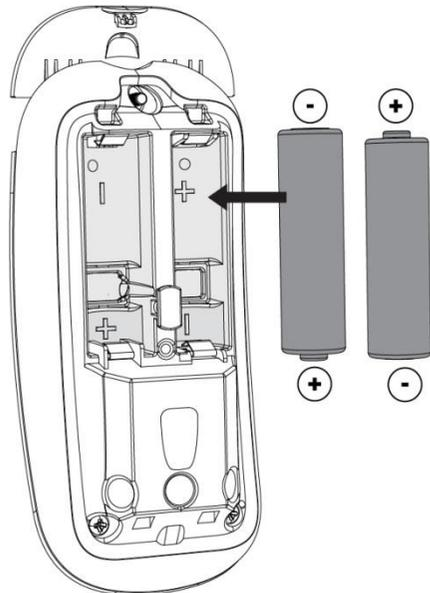

Figure 3
5. Place batteries as instructed in Figure 3.